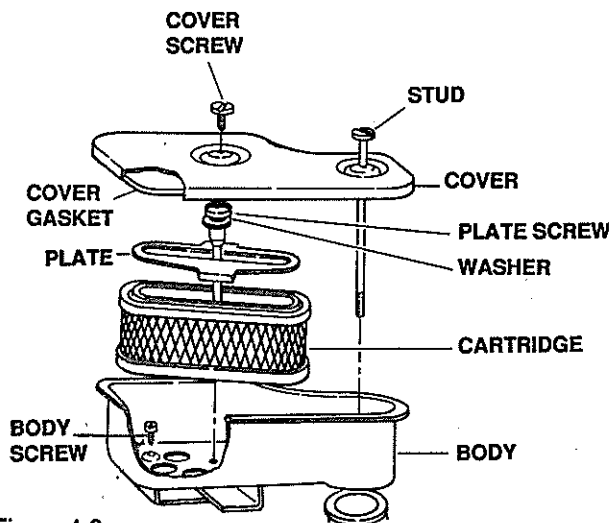

Figure 4-2
1. Service Air Cleaner - Briggs & Stratton 11 HP air cleaner, Figure 4-2: